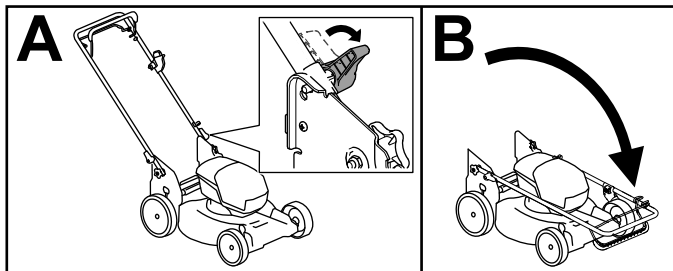

Figure 17
4. Disengage the handle locks until you can move the upper handle freely (A of Figure 17).
5. Fold the handle forward to the fully forward position (B of Figure 17).
6. To unfold the handle, repeat step A of Figure 17 and fold the handle to the operating position.